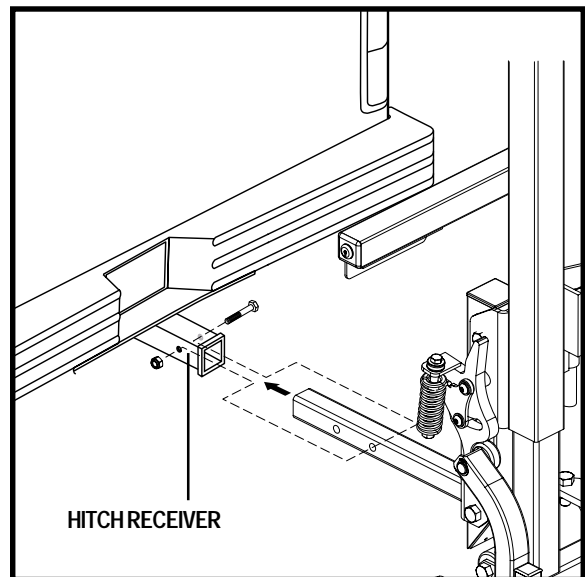

Figure 6. Lift Frame Vehicle Mounting
3. Slide the hitch tube into the vehicle hitch receiver, aligning the mounting hole closest to the lift with the mounting hole in the hitch receiver. See figure 6.
4. Secure the hitch tube with the supplied bolt and nut, inserting the bolt from the passenger's side through to the driver's side of the hitch. See figure 6.